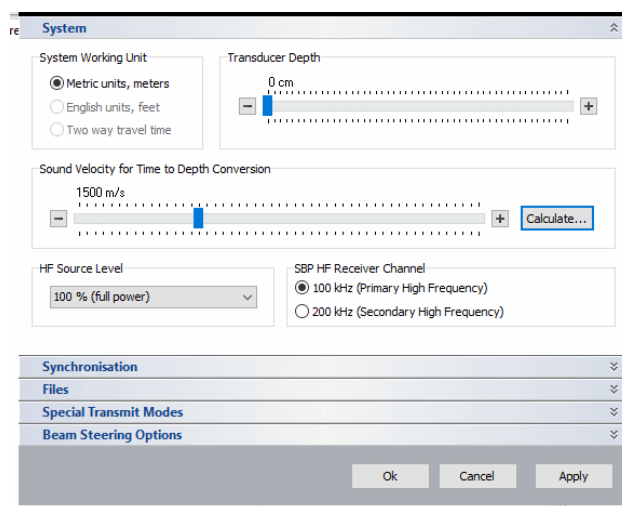

Figure 13: System Setup, General - System
- **System:** Transducer Depth is the depth of the transducer’s bottom below water surface. If set to 0 (zero) all echo plots and depth values are related to the transducer’s face (bottom). Measured or estimated sound speed is used for all depth calculations and has to be set properly. A value of 1500 m/s is adequate (Figure 13) in most cases. HF source level can be reduced in very shallow waters. You can